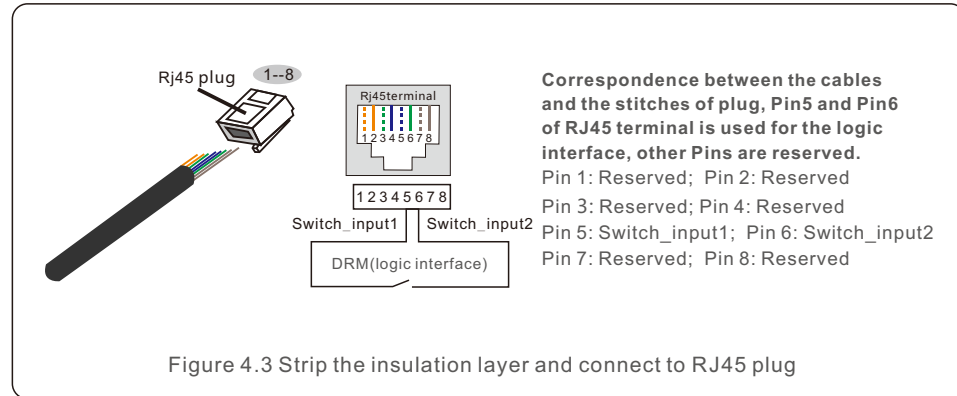

Figure 4.3 Strip the insulation layer and connect to RJ45 plug
2. Use the network wire stripper to strip the insulation layer of the communication cable. According to the standard line sequence of figure 4.3 connect the wire to the plug of RJ45, and then use a network cable crimping tool to make it tight.